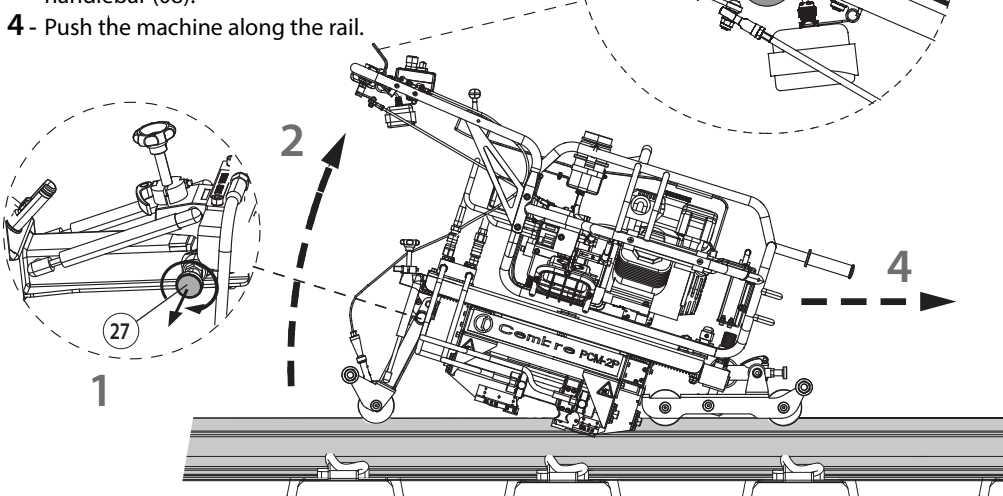

FIG. 4b – MOVING THE MACHINE
4.2) Moving the machine (Ref. to Fig. 4b)